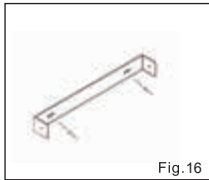

Fig. 16
- Mark the desired position of the duct cover mounting bracket on the wall. Fix and secure duct cover mounting bracket with two screws (not included). (Fig. 16)